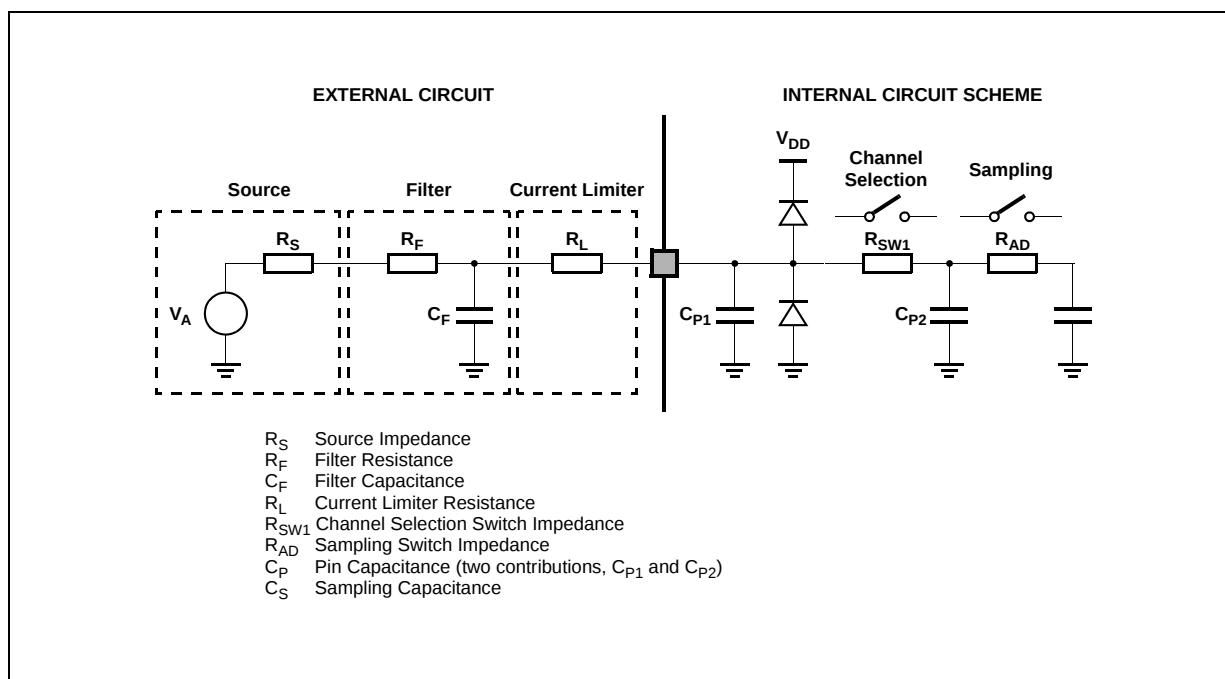

Figure 9. Input Equivalent Circuit
A second aspect involving the capacitance network shall be considered. Assuming the three capacitances C_F , C_{P1} and C_{P2} are initially charged at the source voltage V_A (refer to the equivalent circuit reported in Figure 9): A charge sharing phenomenon is installed when the sampling phase is started (A/D switch close).
- ⁶ See Figure 9.